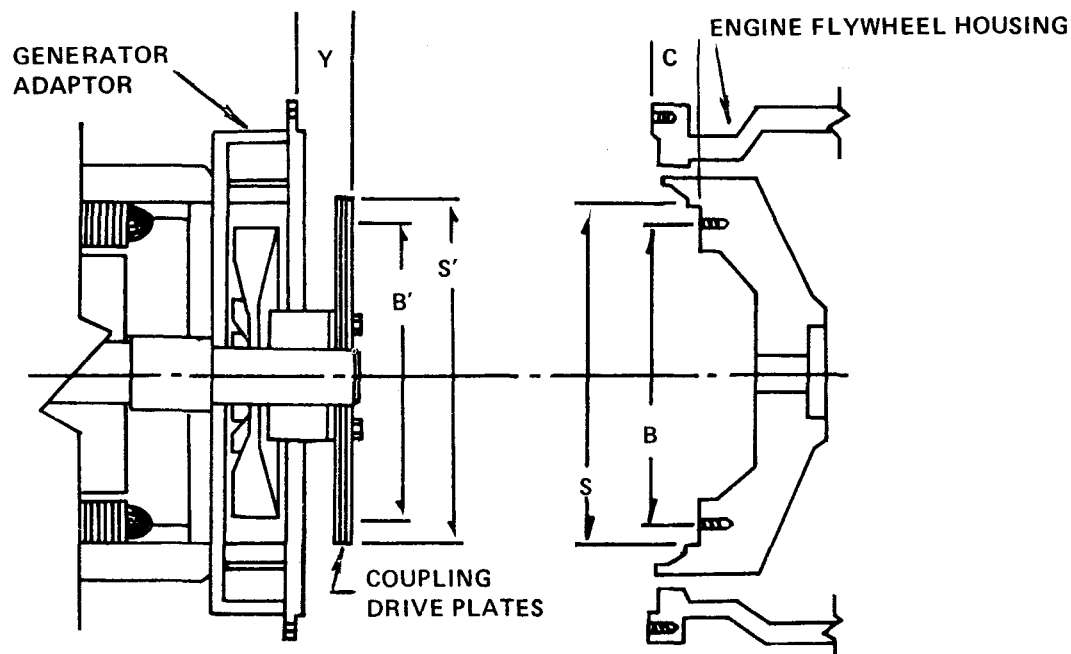

FIGURE 2-2 ENGINE AND GENERATOR COUPLING DIMENSIONS
2. Check the distance from the engine bell housing mounting surface and the drive disks recess (dimension C, figure 2-2) and check the distance from the generator endring mounting surface to the outside surface of the drive disks (dimension "Y", figure 2-2). Dimension "Y" should equal dimension "C".
3. Check the diameter of the drive disks and the flywheel drive disks recess, dimensions S and S' figure 2-2. If the drive disks are over or under size return them to the factory. Do not attempt to grind the drive disks.
4. Check to make certain drive disk and flywheel drive disk recess bolt hole centers are equal, dimensions B and B', figure 2-2. Return drive disks and give flywheel data if disks do not "match" flywheel dimensions. Never attempt to drill out drive disks holes.